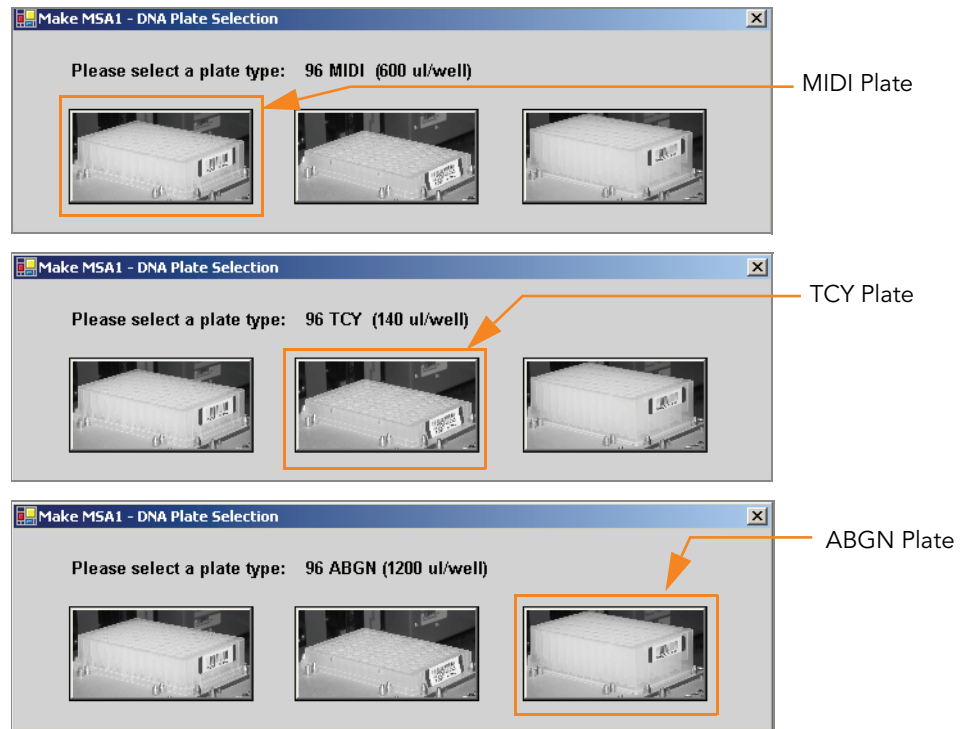

Figure 110 Selecting the DNA Plate Type
3. In the DNA Plate Selection dialog box (Figure 110), click on the plate type you wish to use. Roll the mouse pointer over each picture to see a description of the plate.